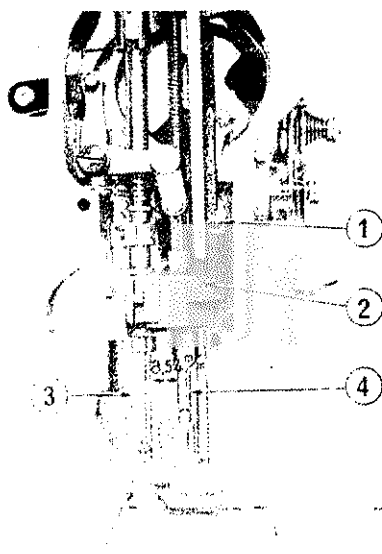

Fig. 17
The relative position of the needle bar frame (Fig. 17 (1)) with that of the presser bar (Fig. 17 (2)) is correct when, with the stitch length at "0", the clearance between the presser bar and the working foot bar (Fig. 17 (4)) comes to 8.54 mm ( $21/64''$ ). (Fig. 17)
To adjust the height of the needle bar, loosen the needle bar clamping screw (Fig. 17 1) and move the needle bar up and down. When proper adjustment is made, firmly re-tighten the clamping screw.